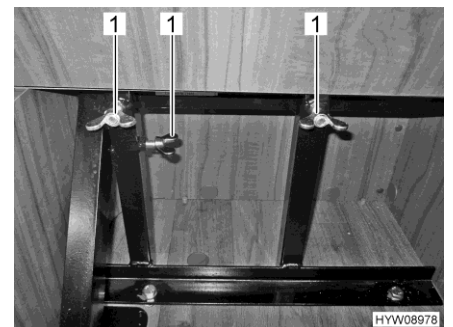

Fig. 25 Secure the attachable seat with wing nuts
- Secure the attachable seat with wing nuts (Fig. 25,1).